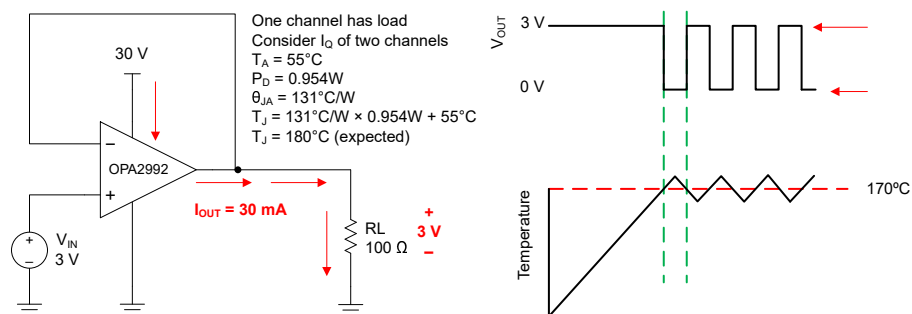

Figure 7-4. Thermal Protection
The internal power dissipation of any amplifier causes its internal (junction) temperature to rise. This phenomenon is called *self heating*. The absolute maximum junction temperature of the OPAx992 is 150°C. Exceeding this temperature causes damage to the device. The OPAx992 has a thermal protection feature that reduces damage from self heating. The protection works by monitoring the temperature of the device and turning off the op amp output drive for temperatures above 170°C. Figure 7-4 shows an application example for the OPA2992 that has significant self heating because of its power dissipation (0.954 W). In this example, both channels have a quiescent power dissipation while one of the channels has a significant load. Thermal calculations indicate that for an ambient temperature of 55°C, the device junction temperature reaches 180°C. The actual device, however, turns off the output drive to recover towards a safe junction temperature. Figure 7-4 shows how the circuit behaves during thermal protection. During normal operation, the device acts as a buffer so the output is 3 V. When self heating causes the device junction temperature to increase above the internal limit, the thermal protection forces the output to a high-impedance state and the output is pulled to ground through resistor  $R_L$ . If the condition that caused excessive power dissipation is not removed, the amplifier will oscillate between a shutdown and enabled state until the output fault is corrected. Please note that thermal performance can vary greatly depending on the package selected and the PCB layout design. This example uses the thermal performance of the SOIC (8) package.